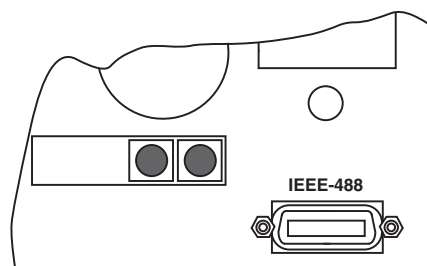

Figure 4-3
1. Line up the cable connector with the connector located on the rear panel. The connector is designed so that it will fit only one way. **Figure 4-3** shows the location of the IEEE-488 connector on the instrument.